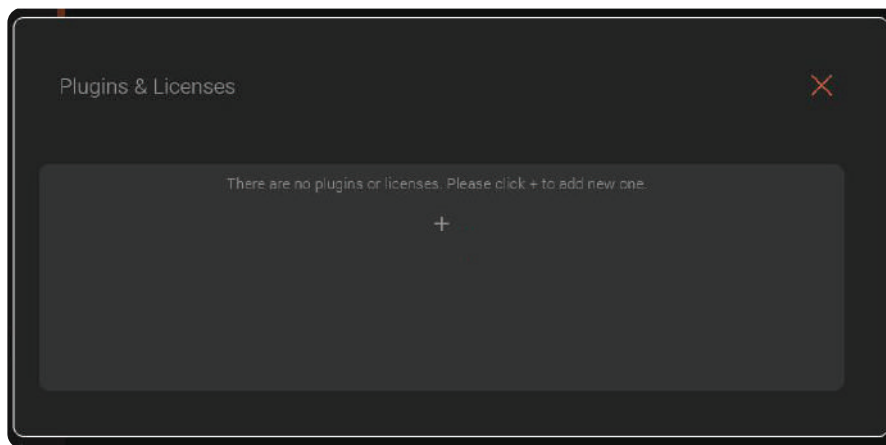

Figure 13
4. Click  button to add license (Fig.13).